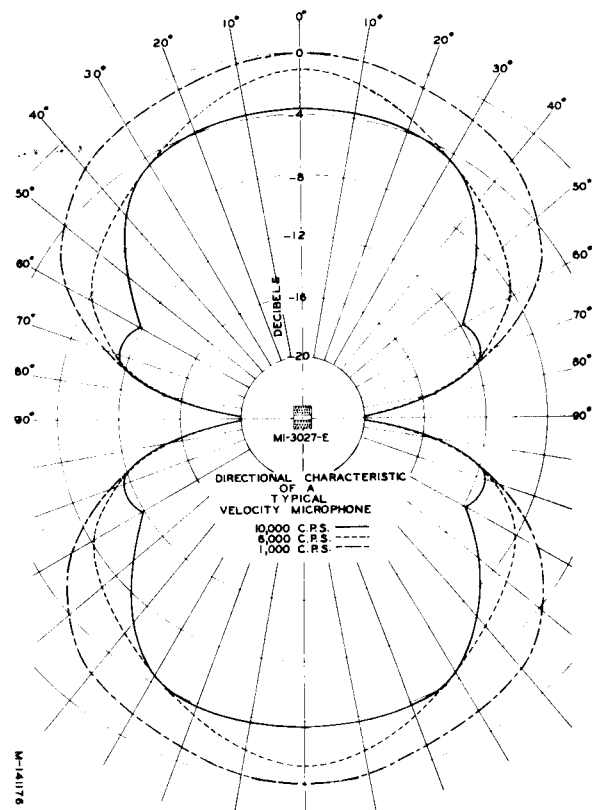

Figure 3—Directional Characteristic of MI-3027-E Microphone
(See Figure 3)
One of the most important characteristics of the velocity microphone is its directional property. Sound waves approaching the microphone from a direction in the same plane as the ribbon have little effect upon it. Sound waves approaching from either the front or back direction along an axis perpendicular to the plane of the ribbon have the maximum effect. For equal distances from the microphone, the relative response to sound originating at various angles to the axis perpendicular to the ribbon is shown in Figure 3.
3. High frequency instruments should be placed along the axis perpendicular to the plane of the microphone ribbon or displaced from this axis only by small angles. Low frequency instruments may be displaced from the axis by larger angles. Refer to Figure 3 for the change in directional characteristic with the change in frequency. Experimental placement of performers and instruments is usually necessary in order to obtain the desired effect for a specific set.